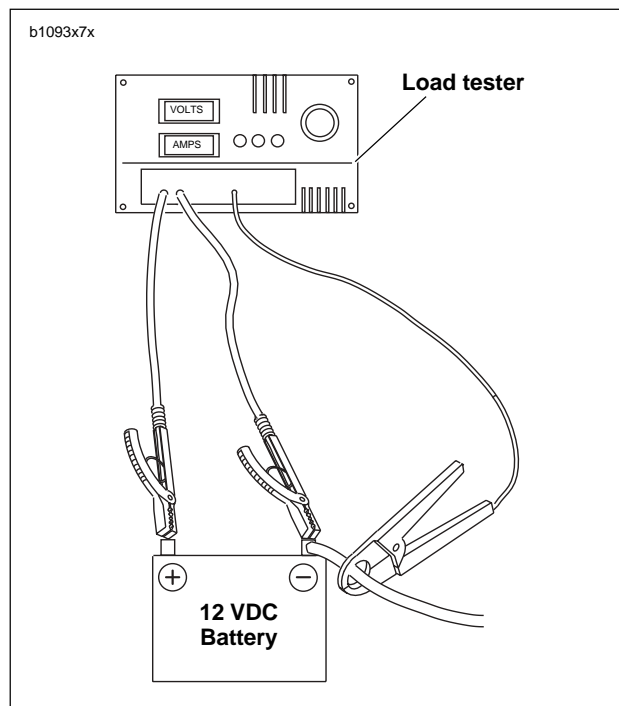

Figure 7-24. Check Current Draw (Ignition Switch On)
- See Figure 7-24. To check for this condition, place load tester induction pickup or current probe pickup over battery negative cable.